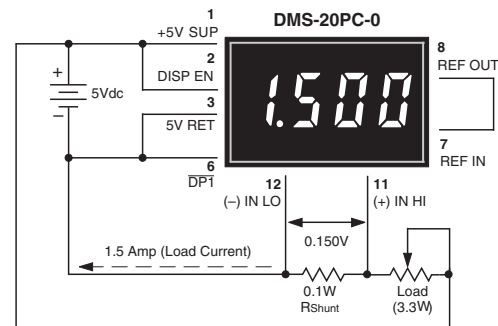

Figure 9. Basic DC Ammeter Circuit
- 7. Digital Ammeter:** Digital ammeters are finding ever-increasing usage because analog-style ammeters (moving-vane types) now cost roughly the same as their digital counterparts. Additionally, analog ammeters are not nearly as rugged as modern digital panel voltmeters. Figure 9 illustrates a typical ammeter application. The circuit uses a ± 200 mV input meter — the preferred range for most ammeters — to measure the voltage developed across a 0.1Ω current shunt. The circuit shown represents a basic ammeter connection diagram. Click here to view a detailed application note describing digital dc ammeters.